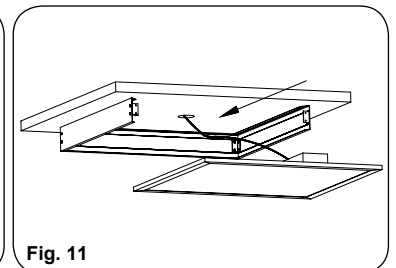

Fig. 11
4. Connect the wires from main to the LED driver, then slide in the LED panel unit into the frame. (Fig. 11)